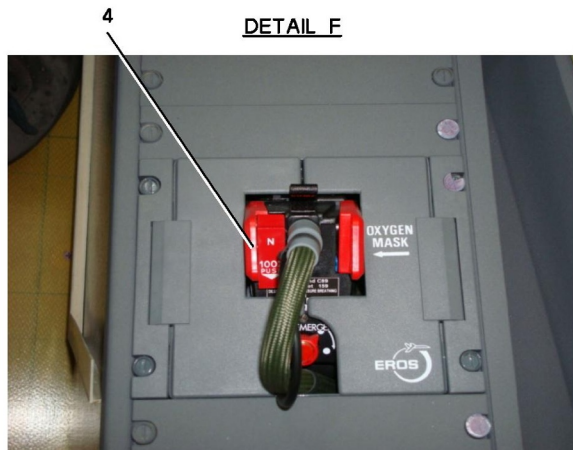

Figure 2: Stowage of the Crew Oxygen Masks
Refer to **fig. 1** and **fig. 2**
- A. For A/C with mask equipped with comfort function, make sure that the toggle switch (7) is set to "NORM".
- B. Coil the oxygen hose and the radio cord at the bottom of pilot/copilot oxygen mask box (**L504WH**)/(**R504WH**) (**fig. 2**, detail A).
- C. Put the harness into pilot/copilot oxygen mask (**L502WH**)/(**R502WH**) (**fig. 2**, detail B).
NOTE: The harness must not protrude from the edge of the mask (**fig. 2**, detail C).
- D. Take the mask by the red tabs (3) of the harness inflation control, without pressing them, and put the mask into the pilot/copilot oxygen mask box (**L504WH**)/(**R504WH**), with the harness sides symmetrically arranged with respect to the mask and ahead of the mask face section (**fig. 2**, detail D).
- E. Press pilot/copilot oxygen mask (**L502WH**)/(**L502WH**) against stop (9) in pilot/copilot oxygen mask box (**L504WH**)/(**R504WH**), with the mask face section downwards and the opening facing aft (**fig. 2**, detail D).
- F. Close the LH door (**fig. 2**, detail E).
- G. Insert spigot (8) into hole (5) in red tab (3).
- H. Close the RH door (**fig. 2**, detail F).
- I. Position the oxygen hose and the radio cord in the cutout provided in the doors of the pilot/copilot oxygen mask box (**L504WH**)/(**R504WH**) (the hose curve must be 5 to 6 cm (2 to 2.4 in.) in diameter) (**fig. 2**, detail F).
- J. Make sure that the "N-100%" control pushbutton (4) is set to "N" (**fig. 2**, detail F).